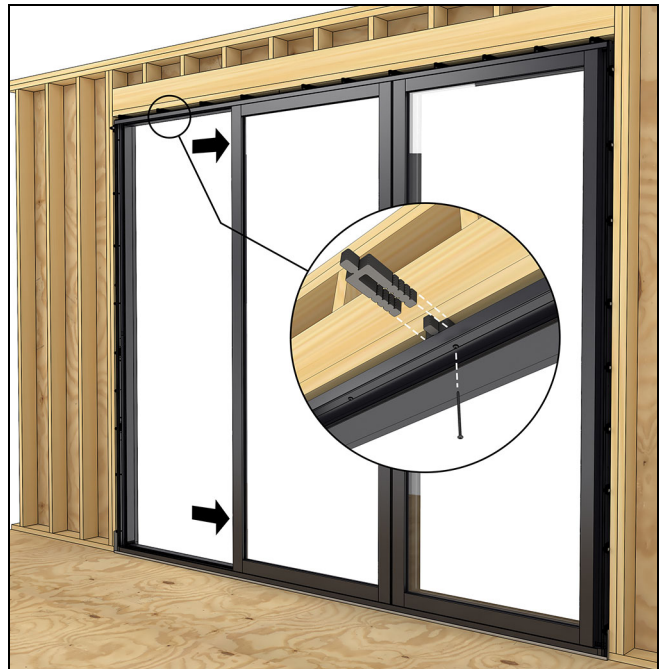

Figure 89
7. Slide the (Q) panel over to reveal screw holes in the retainer, then shim, predrill with a 3/16" drill bit and drive the #10 x 3" color matched screws into the RO. See Figure 89.